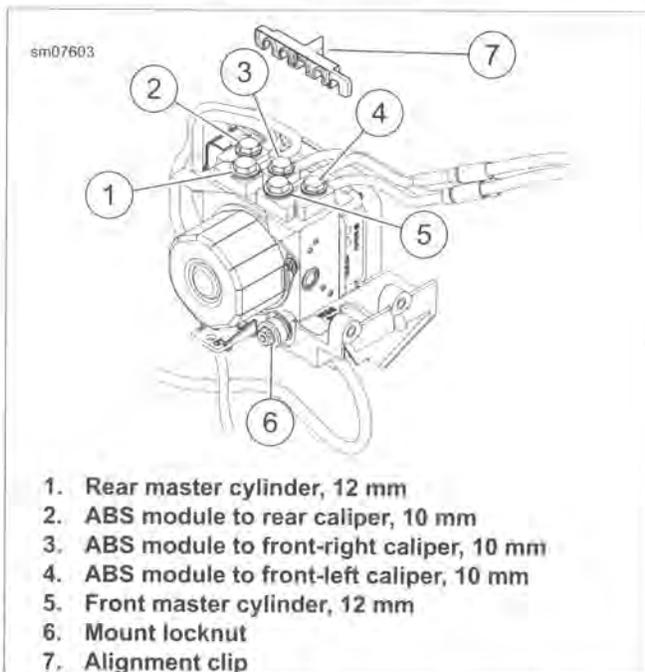

Figure 2-60. ABS Module Connections
6. See Figure 2-60. Remove alignment clip (7) from lines at ABS module.
2. See Figure 2-60. Tighten locknuts (6) to 53-88 in-lbs (6-10 Nm).